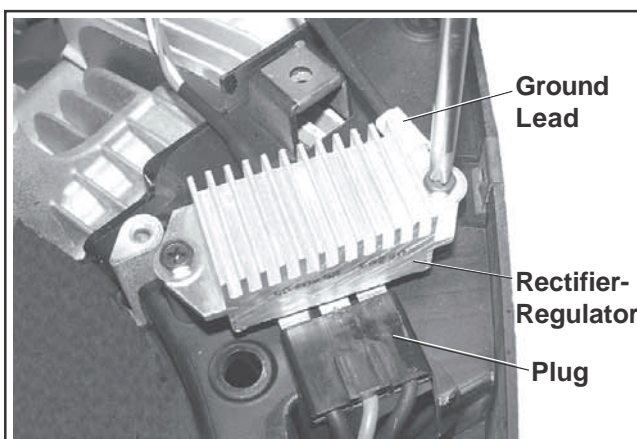

Figure 8-32. Rectifier-Regulator Details.
2. Remove the mounting screws securing the rectifier-regulator to the backing shroud assembly. Note the location of the ground lead. If the rectifier-regulator is not being replaced, it may remain mounted to the lower blower housing. See Figure 8-32.